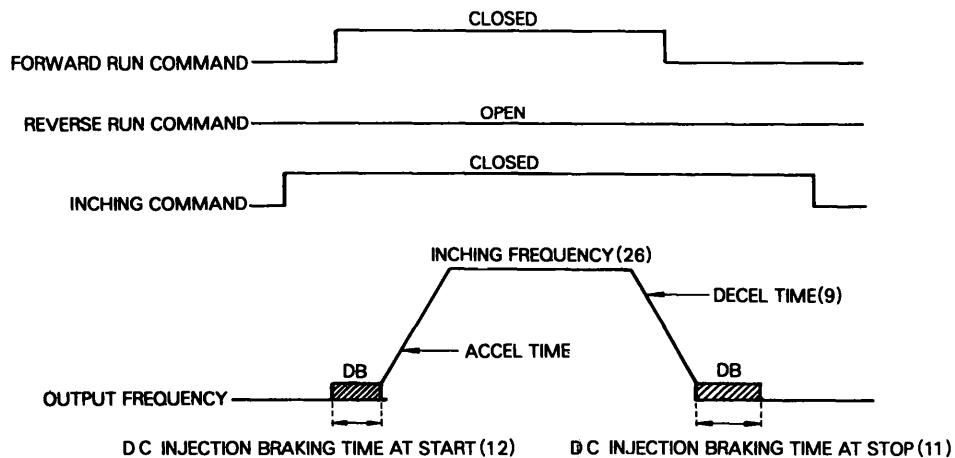

Fig. 12 Time chart at Forward and Inching Operations
**Close:** Only during close, the inching operation with control constant 26 (Setting to 6 Hz prior to shipment from the factory) as the frequency command is carried out. The rotating direction is given by the forward run command or reverse run command. The timing chart in forward and reverse operations are shown in Fig. 12.